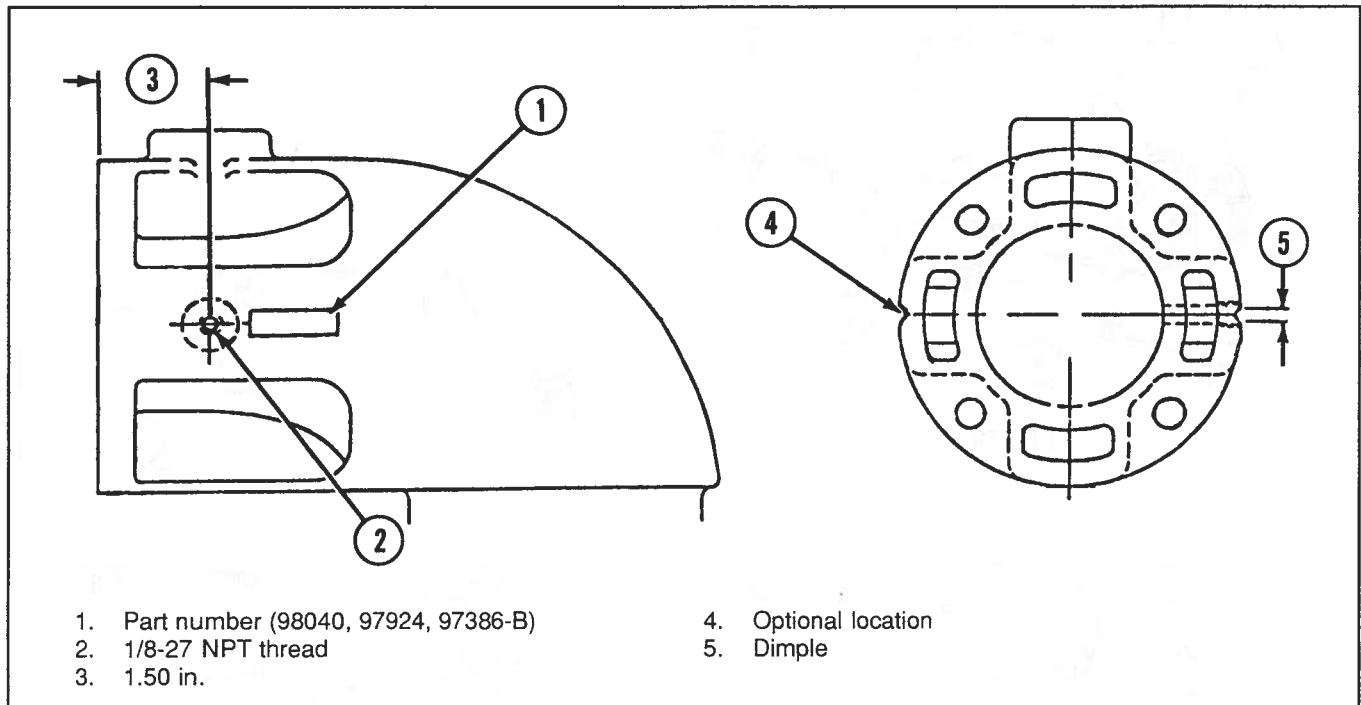

Figure 9-5. Late-Model Elbow
1. Drill exhaust elbows with an "R" or 11/32 in.-diameter drill bit in location shown in Figures 9-5 or 9-6. Tap this hole with a 1/8-27 NPT tap.